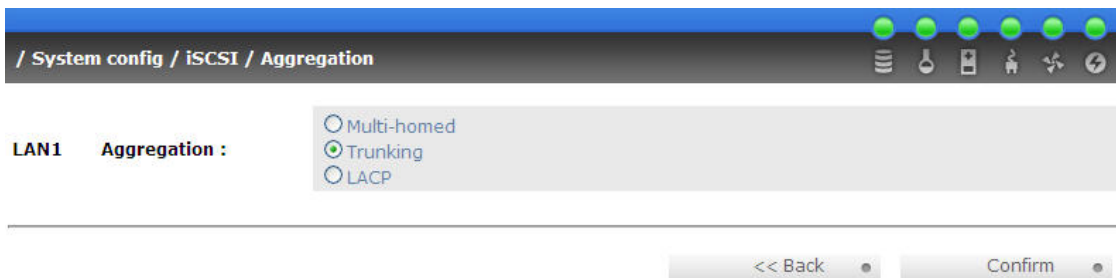

Figure E.8
10. Select "LACP". If Trunking is needed, please see Figure E.8.